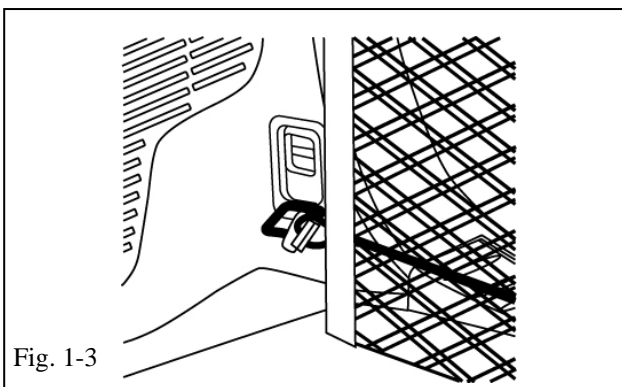

Fig. 1-3
- (d) Attach the hook at the bottom of the net to the D-ring on the vehicle as shown (Fig. 1-3).